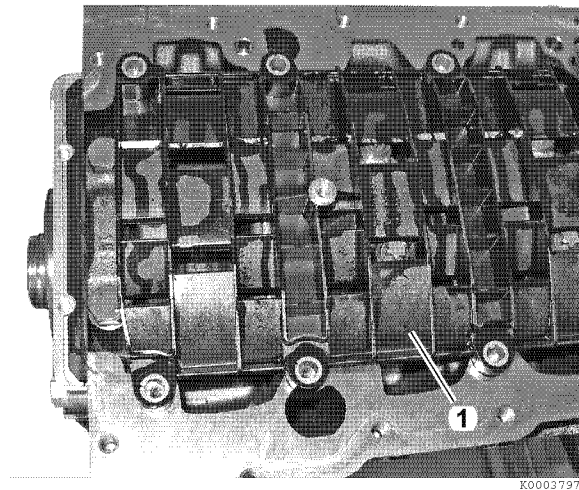

Figure 5-106
9. Remove oil deflector (1, **Figure 5-106**).